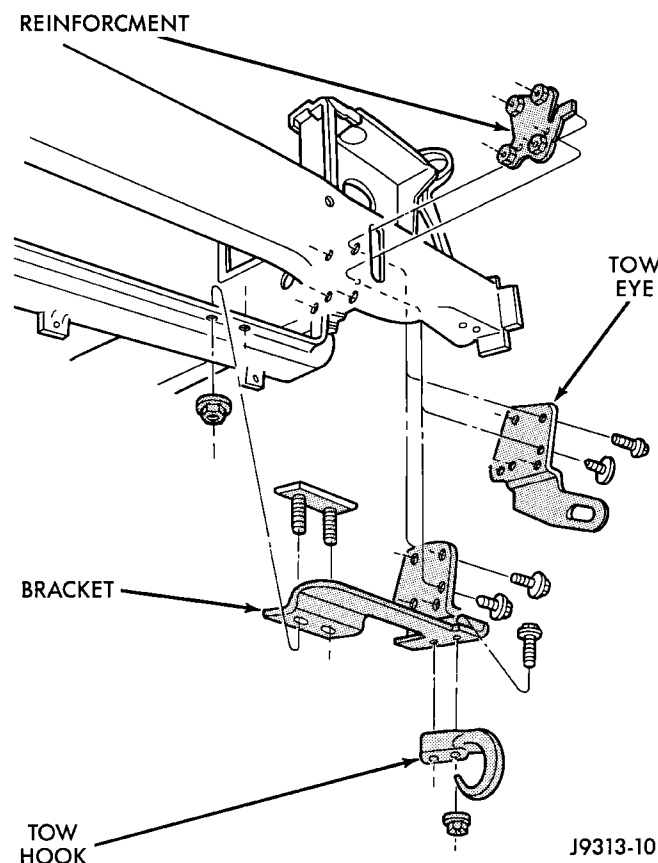

Fig. 1 Front Tow Hook
- (1) Remove grille and fascia.
- (2) Remove the nuts and bolts that attach the tow hooks to the lower crossmember (Fig. 1).
- (3) Remove the tow hooks from the lower crossmember.